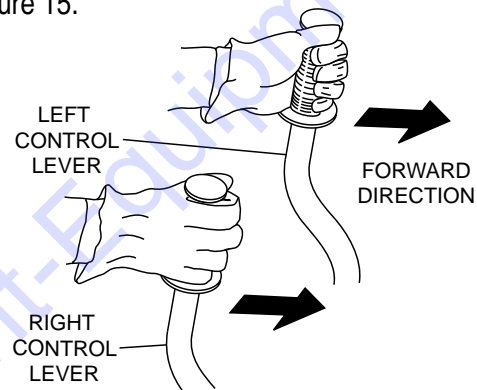

Figure 15. Left and Right Control Levers
1. Push both the left and right control levers forward. See Figure 15.